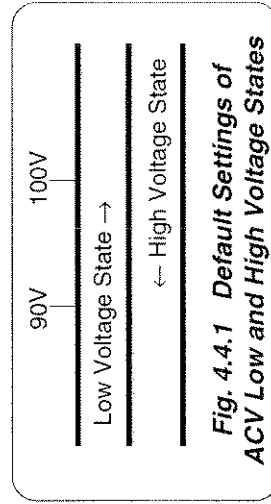

Fig. 4.4.1 Default Settings of ACV Low and High Voltage States
Each threshold value is related to the value set on the screen, including any Deviation. The default state boundaries are shown in Fig. 4.4.1. The values given in the figure translate to DC volts in DCV function, and RMS volts in ACV function.
- a. Use the front panel controls to set the 9100 Output to the UUT cal point frequency and voltage, entering High Voltage State if the cal point has been assigned to that state. The default High Voltage State boundaries are shown in *Fig. 4.4.1*.